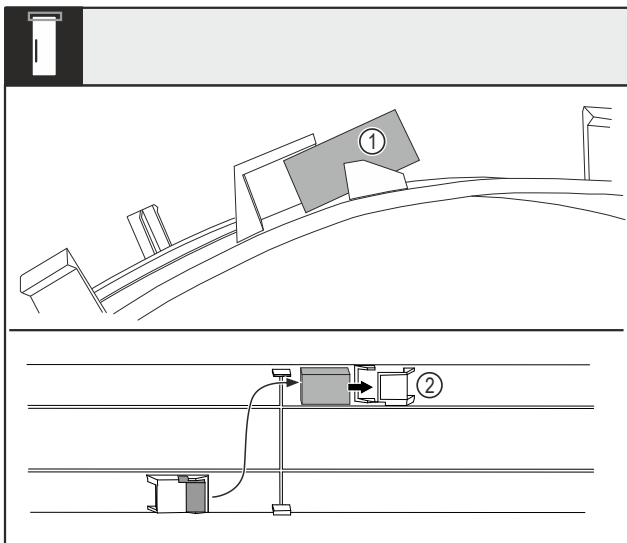

Fig. 16
- ▶ Bend the cover and pull the door magnet Fig. 16 (1) out of the retaining clip.
- ▶ Insert the door magnet into the other retaining clip Fig. 16 (2).